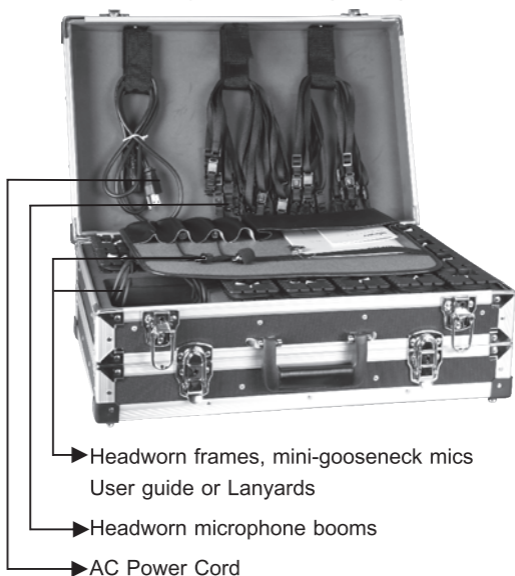

Fig. 30
3. MTG-100C-28 Top Case for Power Cords and Neck Lanyards Storage, Fig. 30.